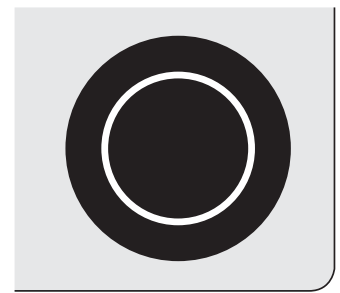

Figure 3
The cooktop is equipped with a dual radiant surface elements located at the **right front** position (Figure 1). Symbols around the knob are used to indicate which coil of the dual radiant element will heat. The ○ symbol indicates that only the inner coil will heat (Figure 2). The ◎ symbol indicates that both inner and outer coils will heat (Figure 3). You may switch from either coil setting at any time during cooking.
2. Push in and turn the control knob to the inner coil symbol for smaller cookware (Figure 2) or to inner and outer coil symbol for larger cookware (Figure 3). Turn the knob to adjust the setting if needed. Start most cooking operations on a higher setting and then turn to a lower setting to finish cooking. Each surface element provides a constant amount of heat at each setting. A glowing red surface heating area extending beyond the bottom edge of the cookware indicates the cookware is **too small** for the surface heating area.